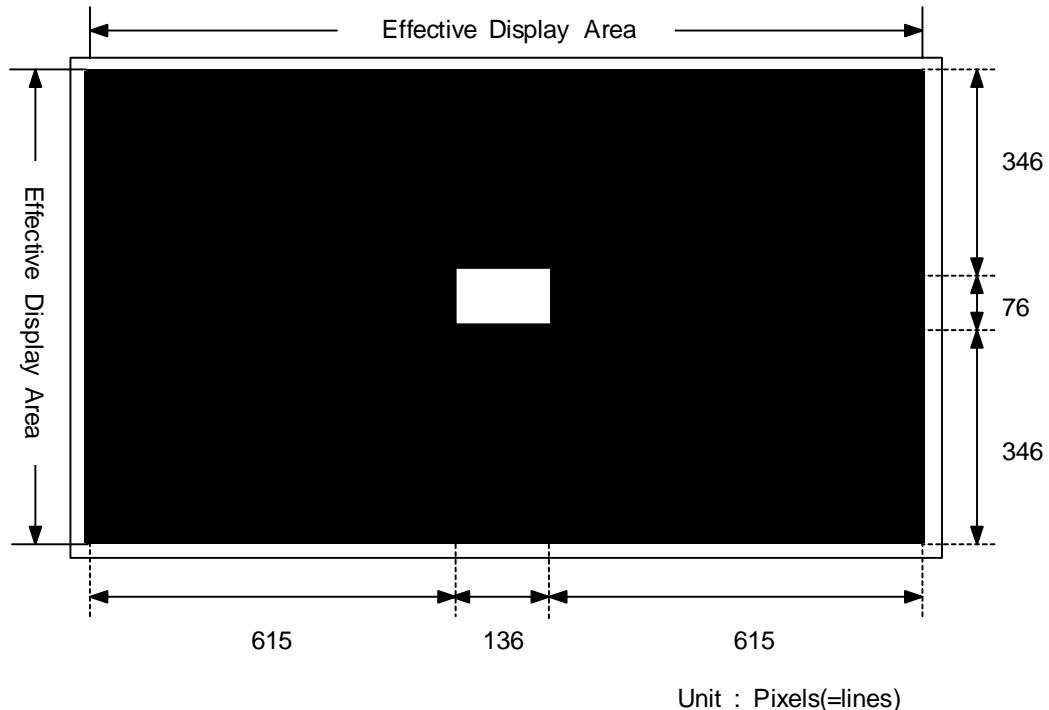

Figure-3. Display Pattern for Brightness & Contrast Ratio Measurement
- * 1. Luminance and Color Coordinates are the values that were measured with 1% load ratio white pattern. The condition for measurement is shown in Figure-3.